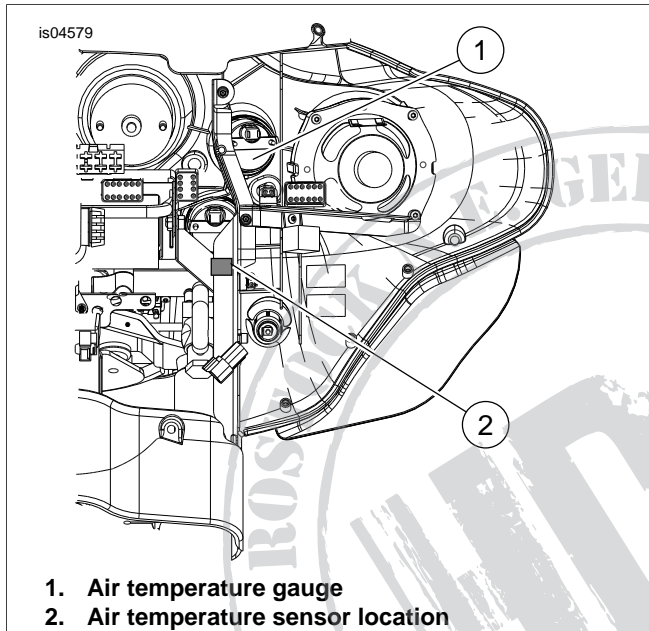

Figure 6. Location of Air Temperature Sensor (outer fairing removed) - 2000-2007 Models
4. For each gauge, slide back clamp (4) over the gauge studs. Verify that the tab (A or B) on bracket engages slot at bottom of inner fairing bore.
5. Loosely install hex nuts (5) on studs. Verify that the gauge is properly aligned and then tighten nuts securely.
6. **For 2000-2007 Models:** See Figure 6. Install the air temperature sensor in the location shown (2) by pushing the post on the connector into the hole in the fairing support.